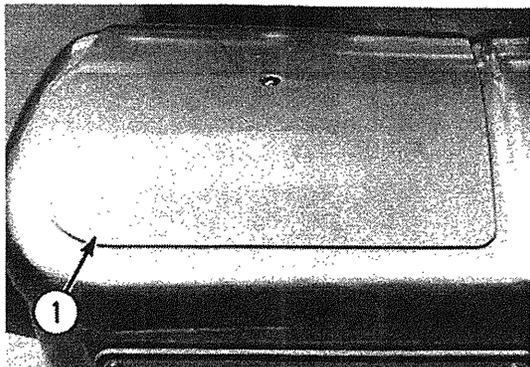

Fig. 4-1
- B. Remove housing cover (1, Fig. 4-1).